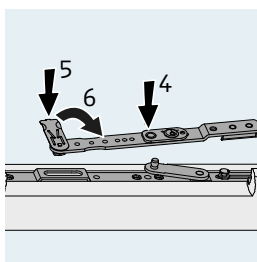

Figure 4
3. Lift the sash off the bottom fitting (figures 4 & 5).